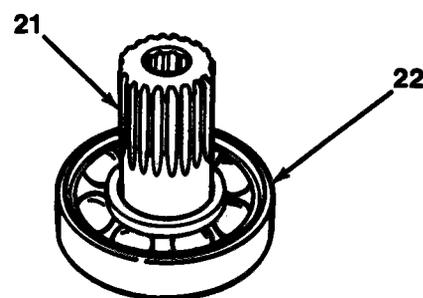

Figure 11-8
19. Using a press, remove ground driven pump shaft (21) from outside bearing (22, Figure 11-8).